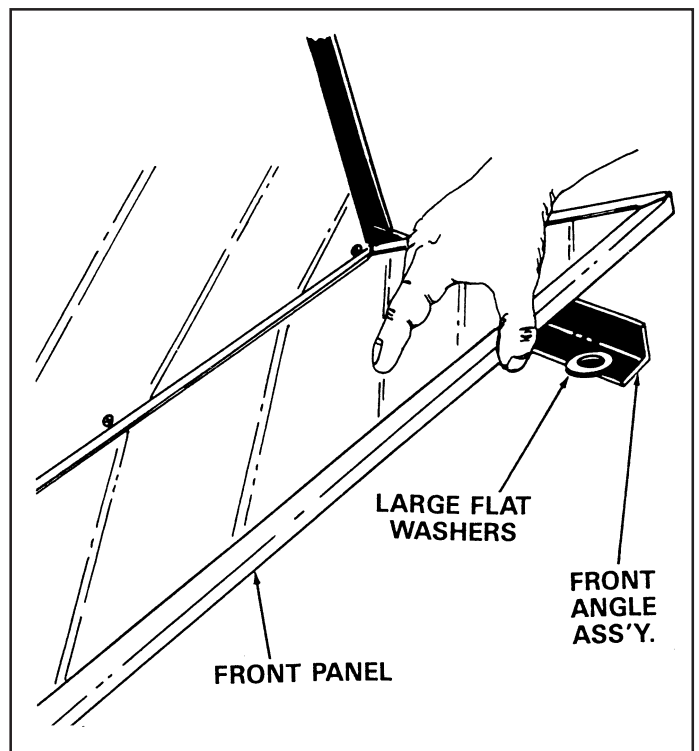

FIGURE 5
8. Lay the front panel down onto the front angle assembly, on top of the four large washers. See figure 5.